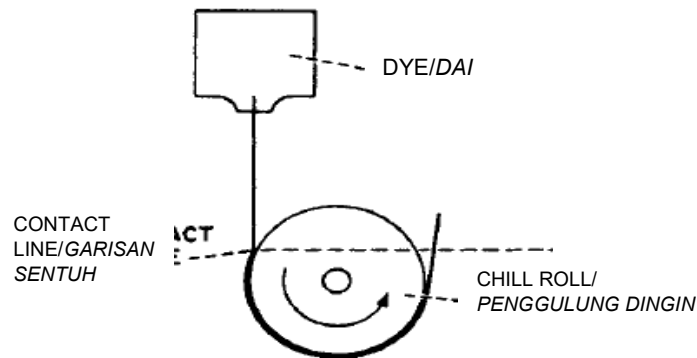

Figure 4:Example of a chill roll system for flat film extrusion setup
- (c). **Figure 4** depicts schematic representation of a flat-film extrusion setup. Using the diagram, identify modes of heat transfer activities that occurred in this kind of shaping procedure?